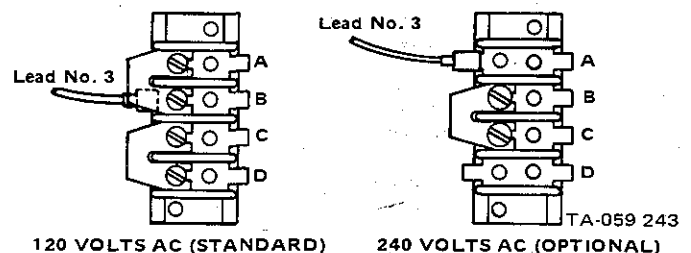

Figure 5-6. Jumper Link Arrangement For 120 And 240 Volts AC
7. Remove and retain jumper links from terminal strip TE1 (see Figure 5-6).
8. Move lead No. 3 (only lead on jumper link side) from terminal B to terminal A (same side of TE1). See Figure 5-6.
9. Position jumper links on TE1 for 240 volts (see Figure 5-6).